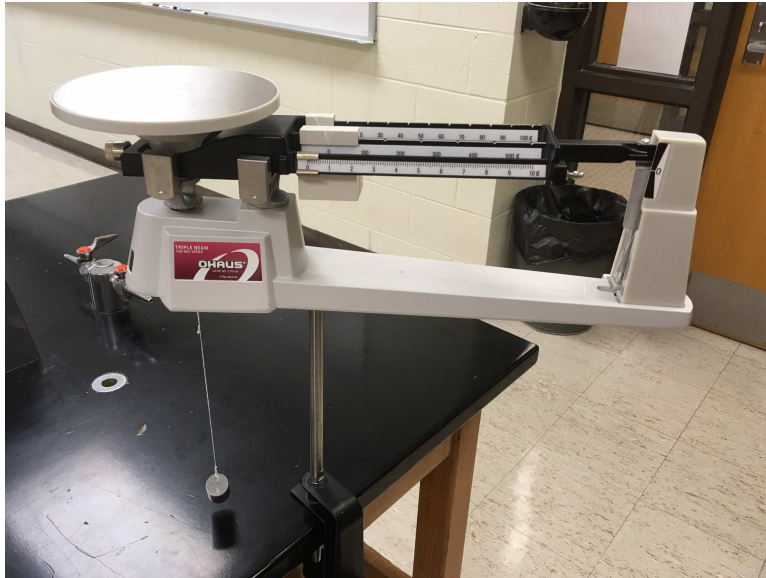

Figure 4: Hooking the unknown masses to the Ohaus Beam Balance.
2. Place the Ohaus Beam Balance on top of the metal rod clamped to the table. Zero the balance and then attach a mass to the balance placing the string loop on the small metal hook underneath the balance pan as shown in Figure 4 on the next page. Record the mass of the metal in grams as measured in "air".